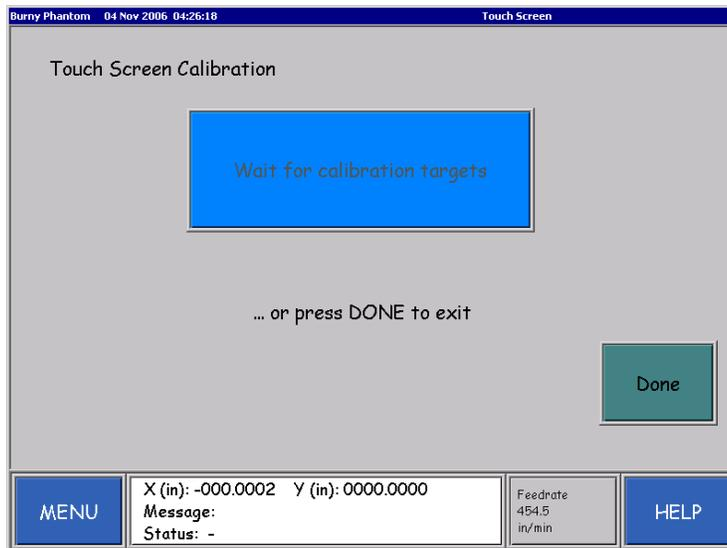

Figure 7.6 Wait for Calibration Targets
6. Press the **Done** button on the **Wait for Calibration Targets** screen (Figure 7-6) to end the calibration procedure and return to the **Util01** screen.